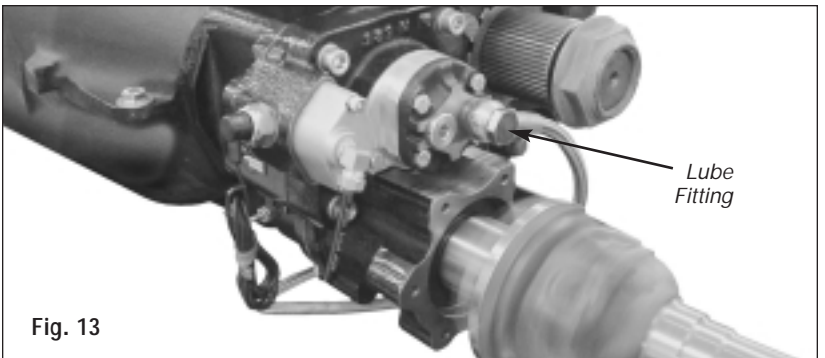

Fig. 13
13. Route the other end of the lube hose to the PTO port in the lube pump which is integral to the RS4S series PTO, tighten the hex bolt at both ends of the lube hose to 42 lb.ft. **Fig. 13** Refill transmission with approved transmission fluid before operating the PTO.